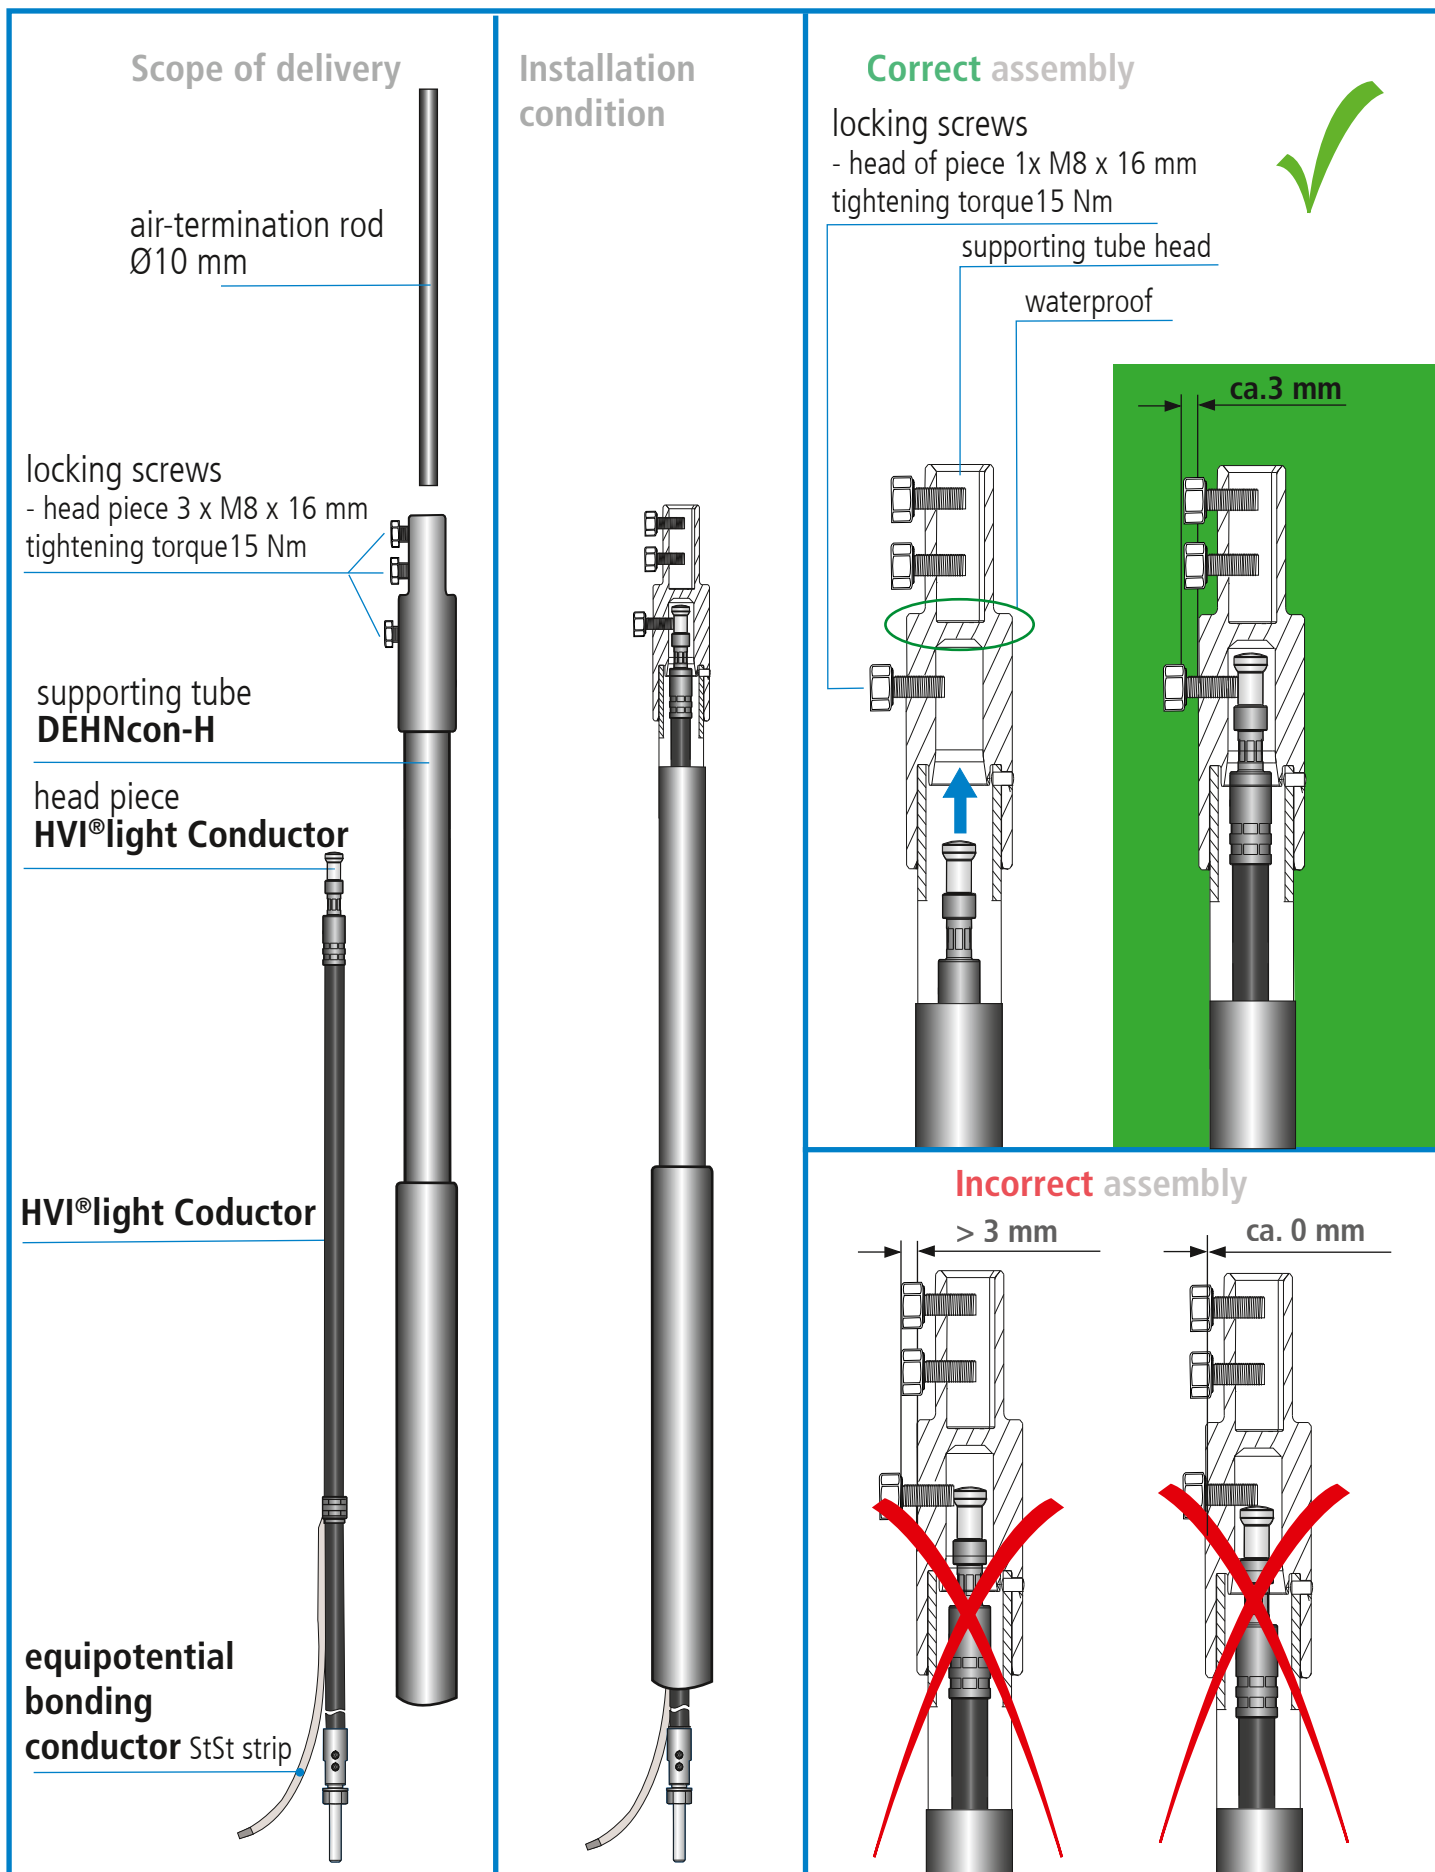

Fig. 1 DEHNncon-H HVI®light-Conductor
The length required for calculating the separation distance "**s**" has to be measured from the head piece (see Fig. 1, page 3) to the down conductor to the next lightning equipotential bonding level, e.g. earth-termination system or point of connection.
Before installing the supporting tube, insert the head piece of the pre-assembled **HVI®light Conductor** into the supporting tube and fix it (see also Fig. 1, page 8).
- ➔ Check whether the **HVI®light Conductor** is properly fixed in the supporting tube (see Fig. 1, page 8). Proper installation can be verified by slightly pulling the conductor at the point where the conductor leaves the supporting tube.
- ➔ The integrated sealing end with a flexible StSt strip (18 x 0.4 mm) is led out at the lower end of the supporting tube for connection to the equipotential bonding. This strip must be connected to the equipotential bonding e.g. to the antenna mast (see Fig. 1, page 8). If required, this strip can be shortened.